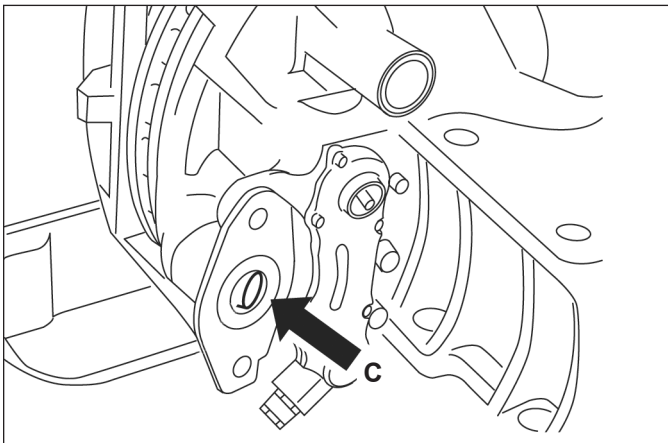

Figure 44 – Spring Brake Installation
- 4.4.14 Reinstallation. Before installing the brake chamber, the actuator flange (See Figure 44, arrow "C") must be cleaned and inspected. Consult the vehicle manual. The spherical cup in the lever (19) must be greased with white grease (Part No. II14525 or K021964). Add grease to the rubber gasket on the chamber.